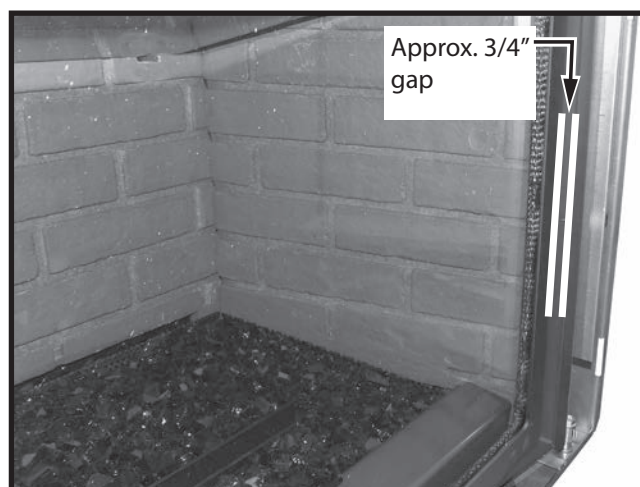

Figure 21: Door handles in closed position.
4. The handle will not close completely. There will be an approximately 3/4" gap between the handles and the door frame (Figure 21). This is normal.